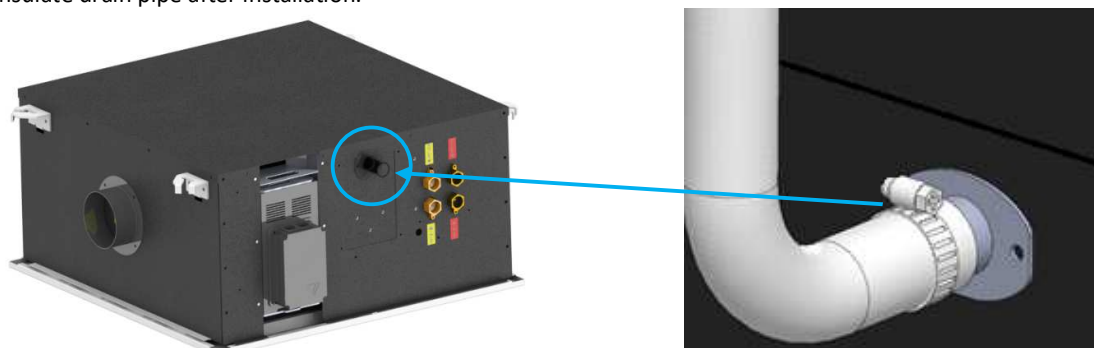

Figure B.7.1
- Discharge pipe may be connected with hose clamp. (Figure B.7.1)